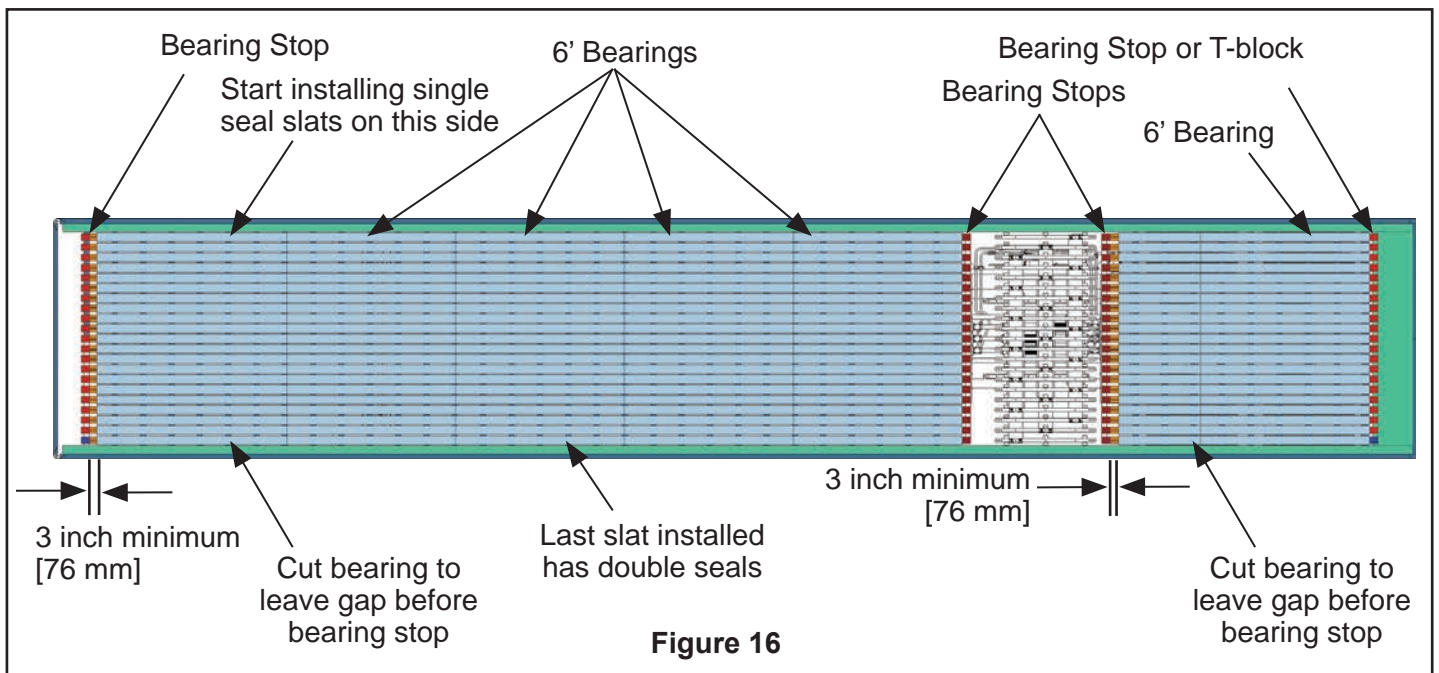

Figure 16
- Pre-cut bearings where needed to fit between the bearing stops on the sub-deck, as shown. Total bearing length should be 3 inches [76 mm] shorter than the distance between bearing stops to allow for expansion of bearings. (See Figure 16)